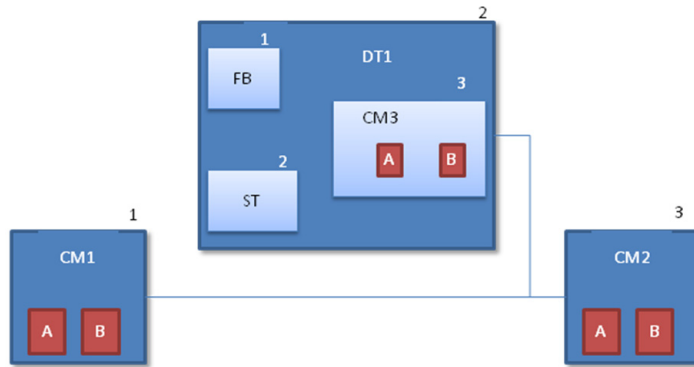

Figure 57. Diagram instance with other module types
Figure 57 shows a representation of a diagram with two control modules (CM1, CM2) and a Diagram Type instance (DT1). Inside DT1, there is a Function Block (FB), a Control Module (CM3) and a structure text code block (ST). 'A' and 'B' are code blocks.